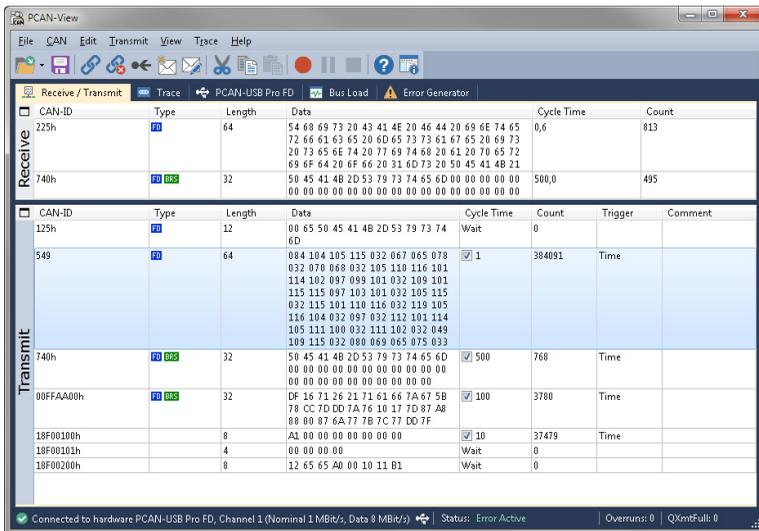

Figure 10: Receive/Transmit tab
- Finally confirm the settings in the dialog box with **OK**. The main window of PCAN-View appears (see Figure 10).